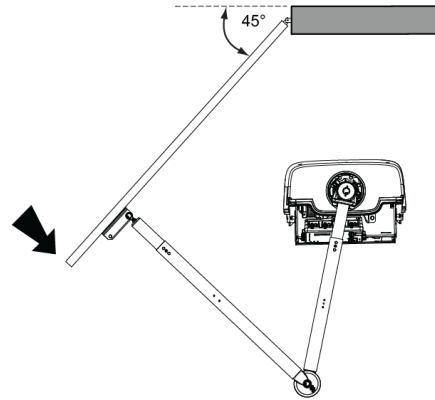

Figure 29. Test the Taper Clamp
5. To test taper clamp slip, push the end of the gate with 50-75 pounds of force to simulate a gate strike (Figure 29).